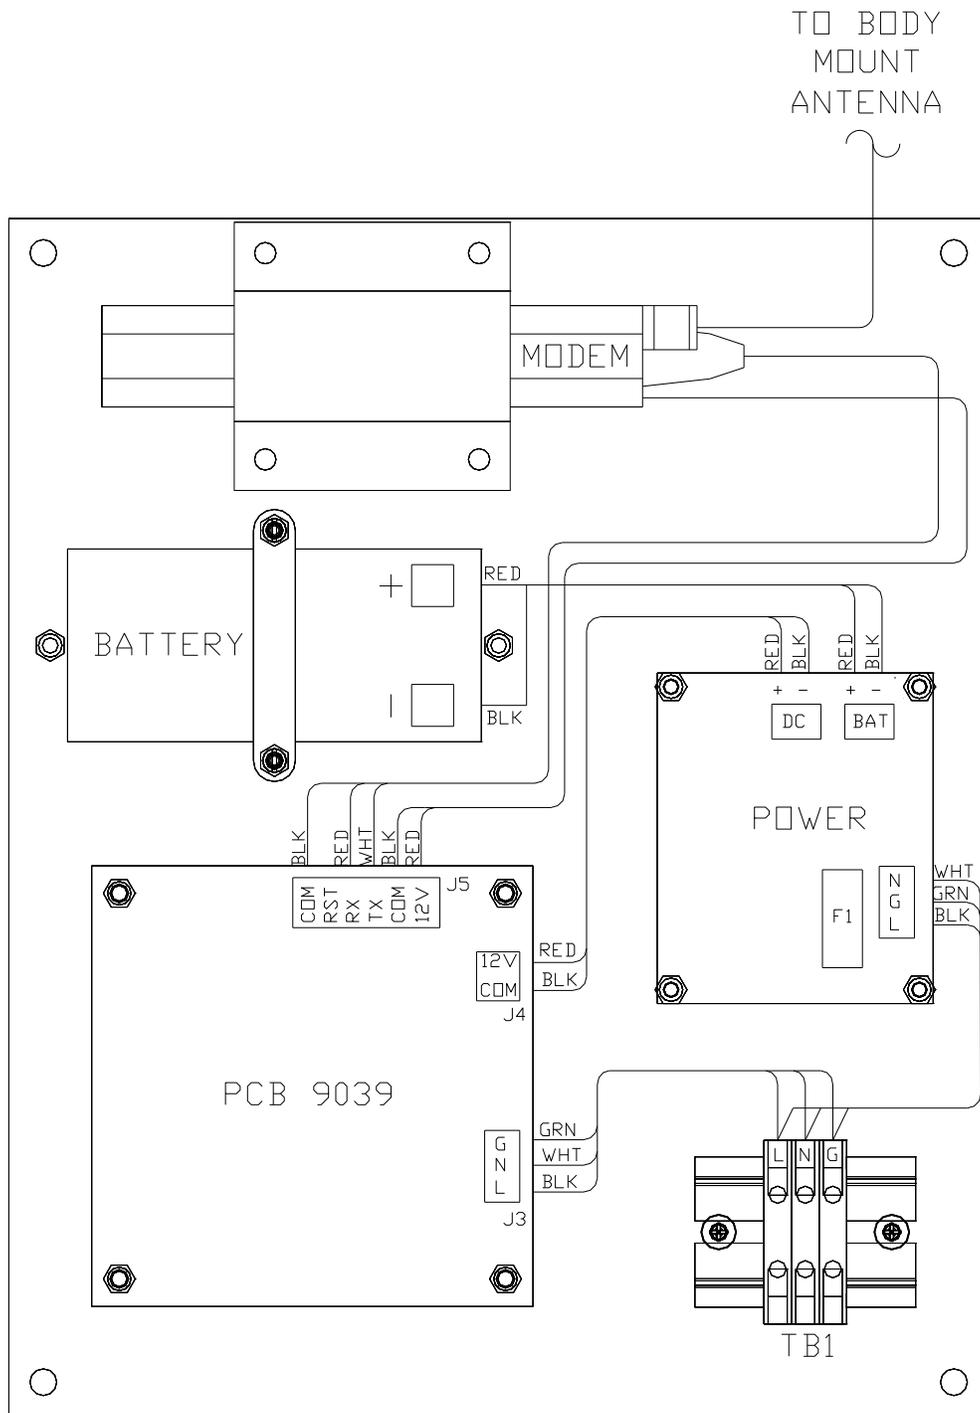
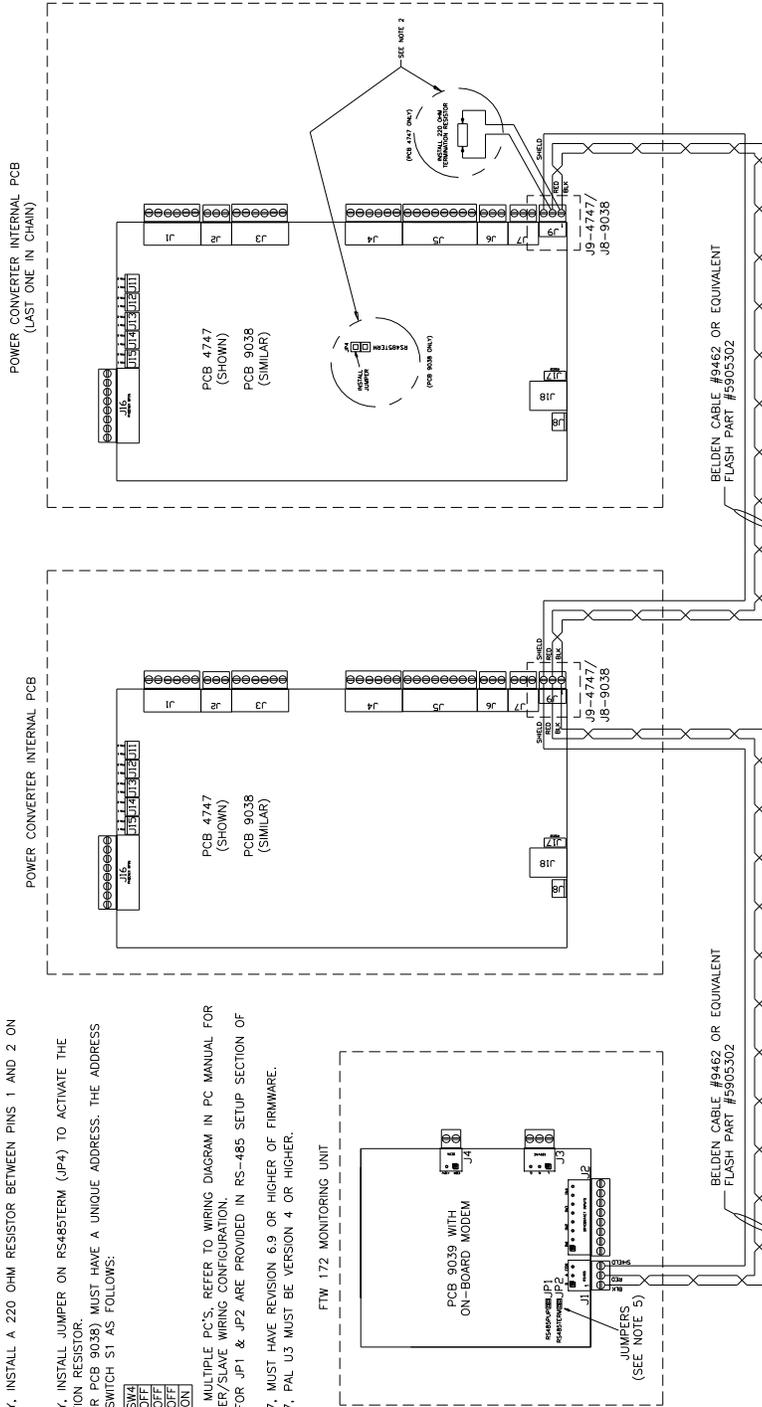
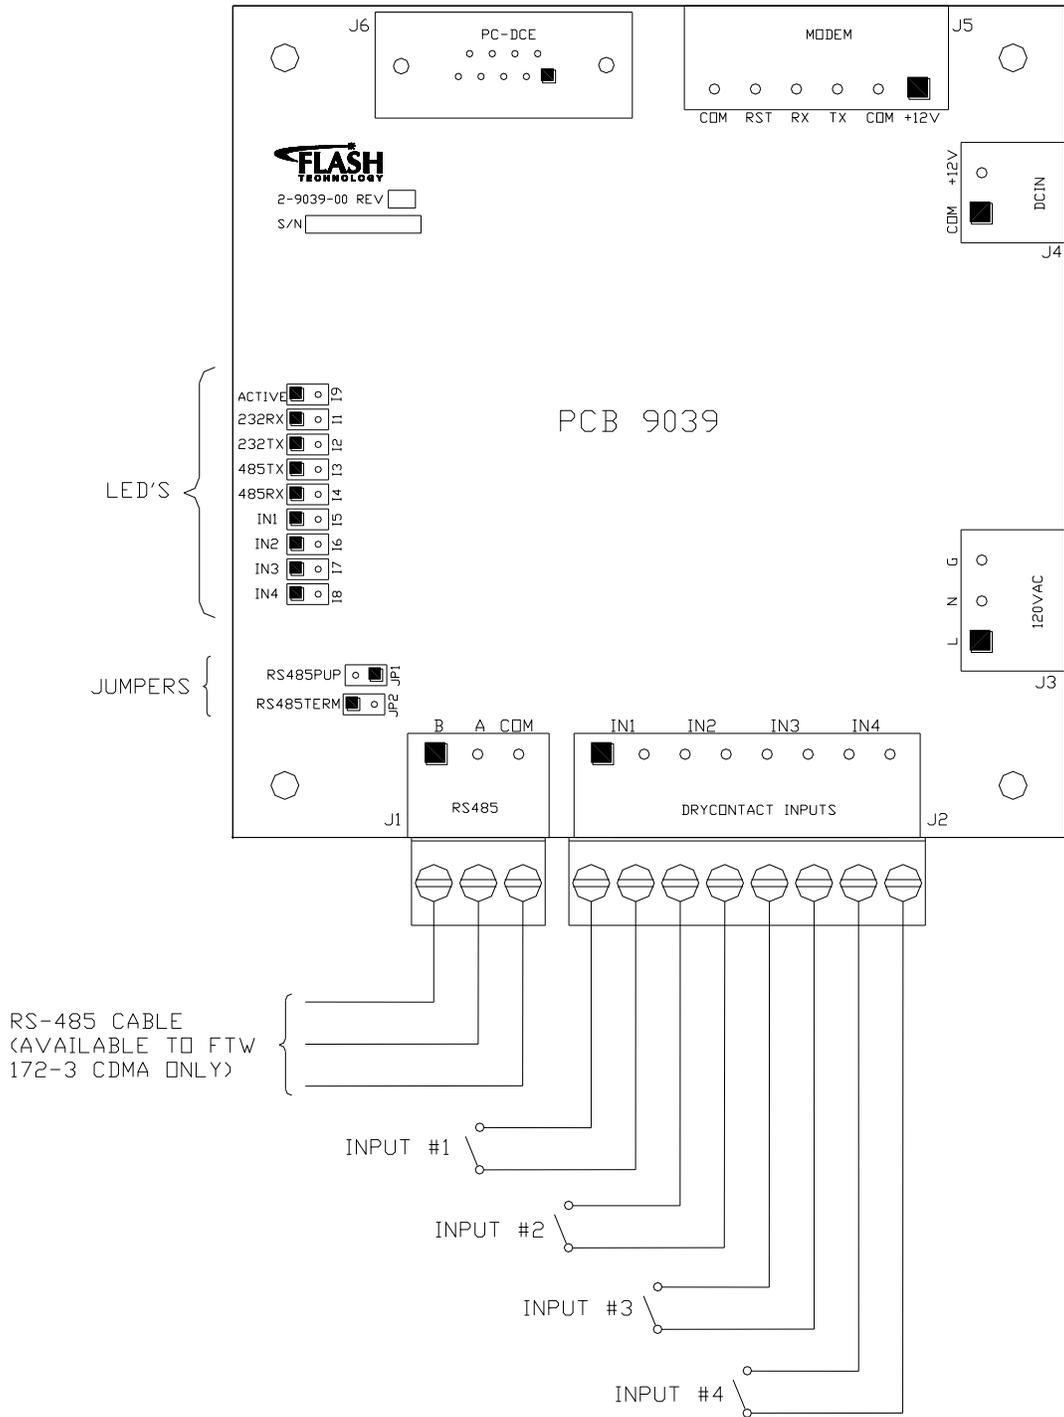

Figure 1-1 – FTW 171-3 / FTW 172-3 CDMA Internal Wiring Component & Layout
Figure 3-4 – RS-485 Installation
Figure 3-5 – PCB 9039 Layout and External Wiring
The component layout and internal wiring of the units are shown in Figure 1-1. The dry contact inputs are located on J2 of PCB 9039 as shown in Figure 3-5.
Prior to installation, the on-site technician should apply 120 VAC to the unit and then monitor the green LED indicator labeled “ACTIVE” on PCB 9039 for illumination. See Figure 3-5 for location of LED. If wireless service is available, the LED will blink indicating that the unit has connected to the wireless network. Once a wireless signal is found, the unit will then attempt to connect to Flash Technology’s National Operations Center (NOC). If communication is achieved, the “ACTIVE” LED will illuminate solid. This process may take several minutes.
Connect the equipment to be monitored via dry contact inputs as shown in Figure 3-5. A label has been provided on the inside cover of the unit to record each input, up to four (4), that is connected. Figure 3-2 depicts the dry contact input label.
Connect the equipment to be monitored via RS-485 as shown in Figures 3-4. Figure 3-5 shows the layout of the PCB 9039 board including the location of jumpers JP1 and JP2. If the PCB 9039 Modem Interface has configurable headers and shunts at JP1 and JP2, refer to Table 3-1 for the proper configuration of these jumpers. If the PCB 9039 has soldered-in wires at JP1 and JP2, no configuration of these jumpers is necessary.
Table 3-3 shown below describes the LED's that are present on the PCB 9039. The location of the LED's is shown in Figure 3-5.
2. Re-apply power to the equipment and observe the “Active” LED shown in Figure 3-5. The green LED should first blink when the unit has connected to the wireless network and illuminate solid when communicating with Flash Technology’s monitoring network. This process may take several minutes.
3. Connect the red wire to + (Positive) and the black wire to – (Negative) on the battery as shown in Figure 1-1.